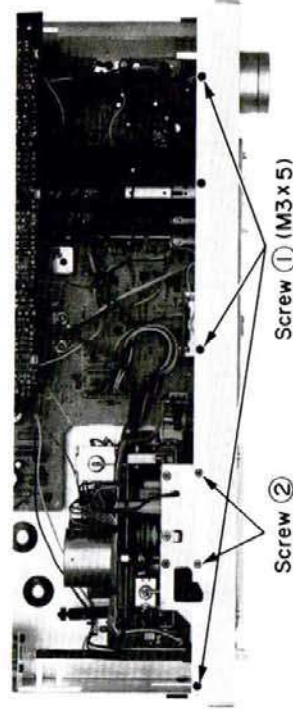

Fig. 3
- 4) Remove 3 screws ① shown in Fig. 3.
- 5) Remove 2 screws in Fig. 3.